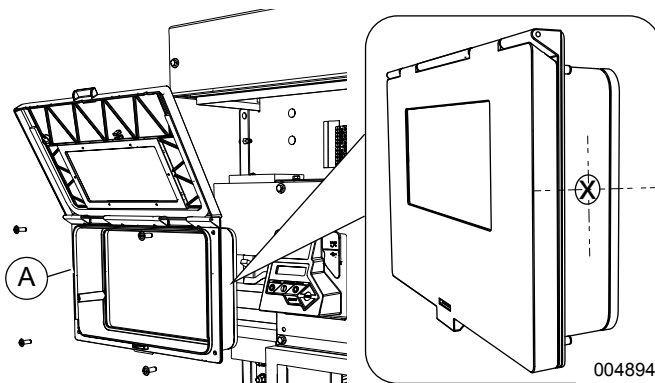

Figure 16 - Prepare Customer Access Cover
1. See **Figure 16**. Open viewing window located on rear enclosure panel. Remove four corner screws and customer access cover (A). Mark an X on the outside of the customer access cover centered on the right side. This will be the center point for the switch mounting hole.